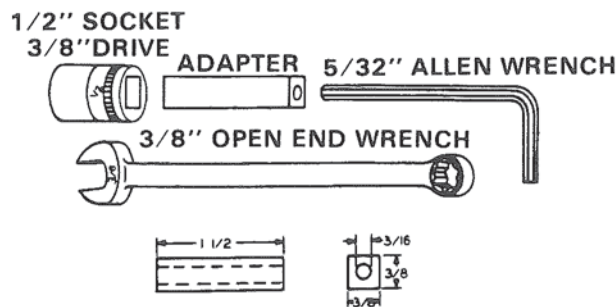

Figure 21. Tools.
1. Remove plug and gasket from immediate housing using tools from Figure 21.